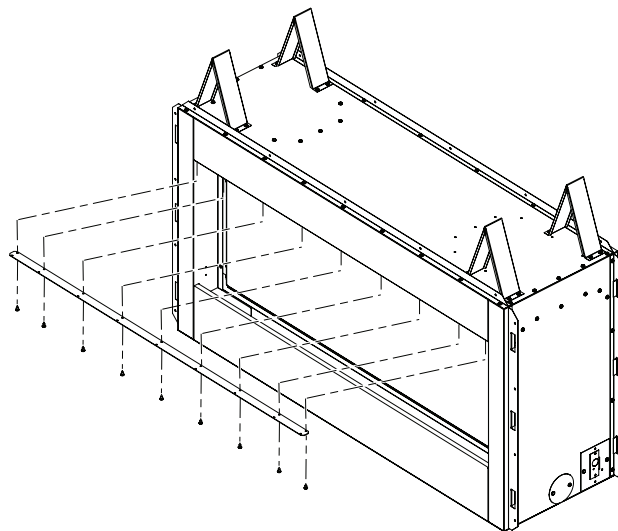

Figure 19 - Removing for See-Thru Applications
2. Unscrew mount bracket from top face as shown in **Figure 19**. Discard mounting bracket and replace screws.